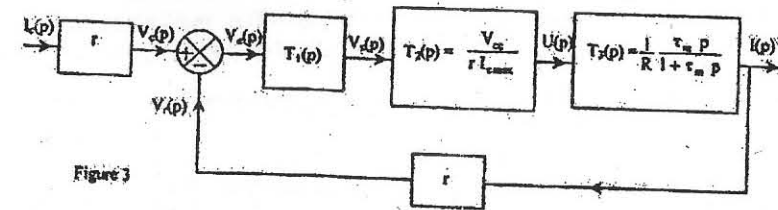
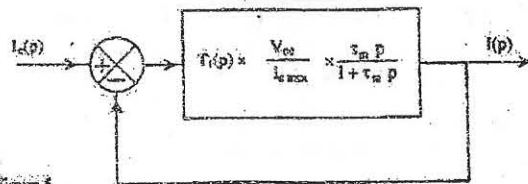
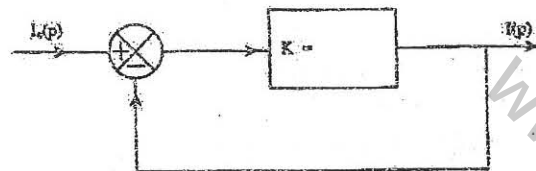

Figure 3
Figure 5
Figure 6
2.2.2. What value should be given the constant $\tau_1 = R_1 C_1$ of the corrector if it is desired that the block diagram of Figure 5, equivalent to that of Figure 3, being reduced to that of Figure 6 where K is a constant we will calculate function of V_{cc} , R and I_{max} . Complete figure 6.
2.2.1. One gives $w(p) = \frac{I(p)}{I_c(p)} = \frac{5}{s}$ and is applied to the input of the loop shown in Figure 3, a set point step $I_c(t)$ of 5.76A while the initial angular velocity $\Omega(0)$ is zero. By using the basic relationship of the dynamics for solid in rotation about an axis, compute $\Omega(t)$